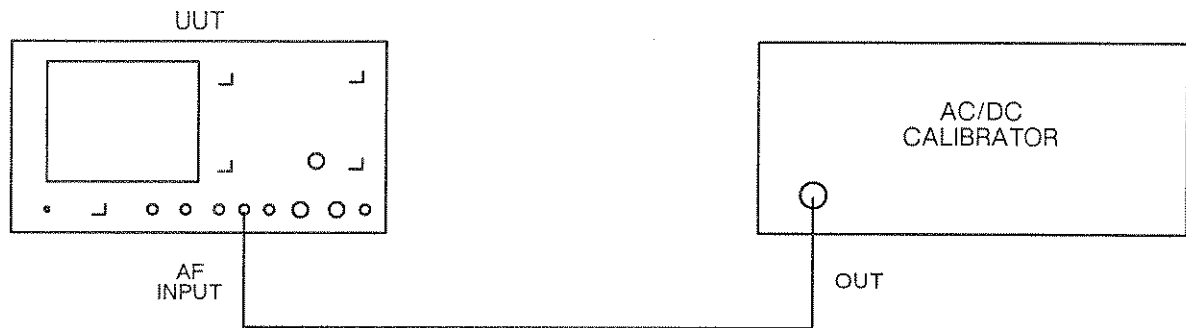

Fig. 5-7 Test equipment connections for voltmeter DC and AF level accuracy
- (1) Connect the equipment as shown in Fig. 5-7.